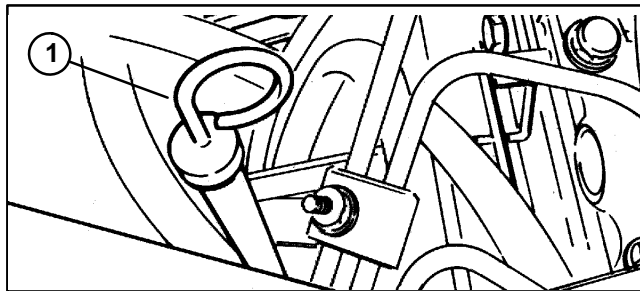

Figure 8
2. Remove dipstick and wipe it with a clean rag. Push dipstick down into dipstick tube and make sure it is seated fully. Pull dipstick out and check level of oil. If oil level is low, add enough oil to raise level to FULL mark on dipstick (Fig. 8).